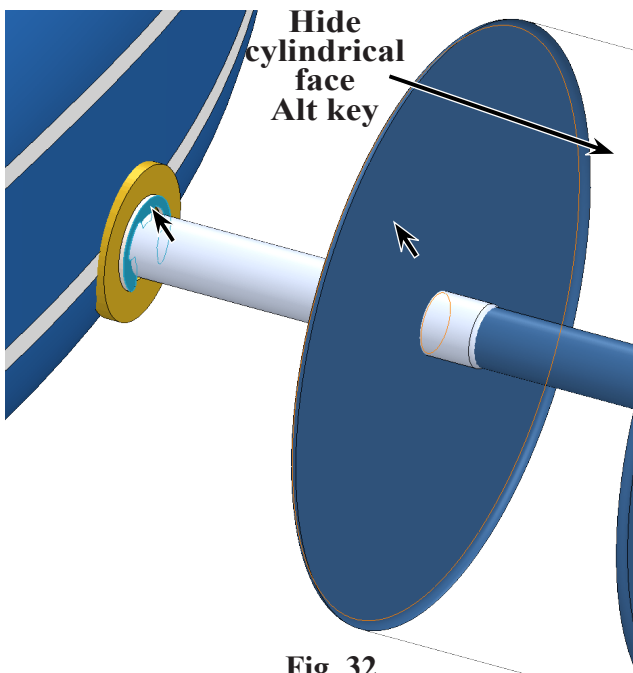

Fig. 32
Step 1. Click outside face of E-Clip<3> and hide cylindrical face of Rear Wheel, click inside face of Rear Wheel, Fig. 32.